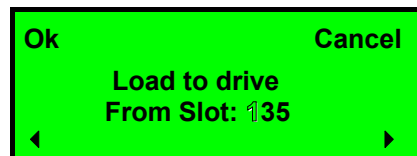

Figure 4.11 Load to Drive
1. From the default display press the menu button and select *Load to Drive* from the main menu. A screen picture like figure 4.11 will be displayed. If a Barcode reader is implemented, the selected cartridge's barcode is displayed in the bottom line.